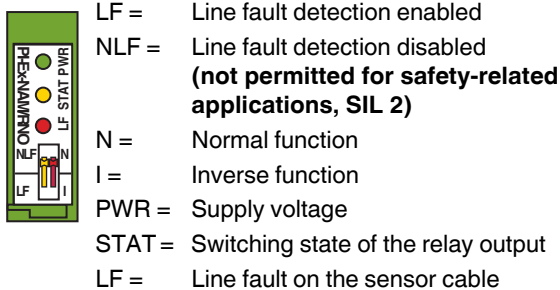

Figure 3 Configuration
Line fault detection is enabled or disabled using a switch (see Figure 3). When line fault detection is enabled, the relay drops out in the event of a cable interrupt to the sensor so that the output is set to the safe, non-conductive state. The red LED (LF) lights up.
The phase reversal function is enabled or disabled using a switch (see Figure 3).